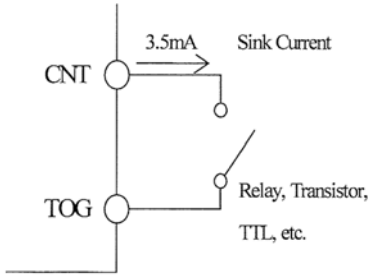

FIGURE 9. REMOTE ON-OFF CONTROL CIRCUIT
3. Remote ON/OFF control circuit (see Figure 9) is isolated from the input and output by a photo-coupler and can be controlled regardless of the output potential (+ or -). Connect TOG terminal to ground of control signal.